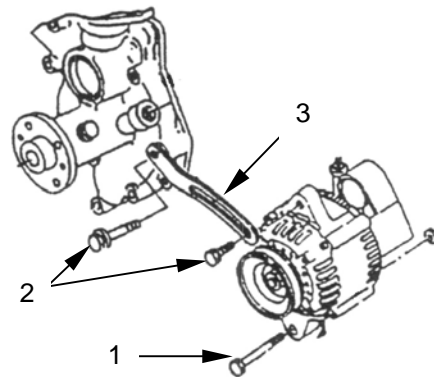

Figure 39. Generator Mounting Hardware
- g. Loosen generator mounting bolts (**figure 39, item 1**).
- k. Loosen and remove adjust plate mounting bolts (**figure 39, item 2**) and adjust plate (**figure 39, item 3**).
- v. Install generator adjust plate (**figure 39, item 3**) and bolts (**figure 39, item 2**).
- w. Torque generator mounting bolts (**figure 39, item 1**) from 3.5 to 4.7 kg-m (25.3 to 34.0 ft-lbs).
- x. Torque adjust plate mounting bolts (**figure 39, item 2**) from 1.9 to 2.9 kg-m (13.7 to 21.0 ft-lbs).